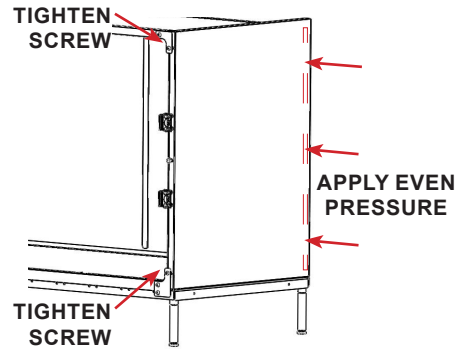

FIGURE 2.58 - End Panel Installation
**STEP 7:** Tighten the top and bottom screws along the side of the cage frame to hold the end panel against the cage frame. See FIGURE 2.58
**STEP 8:** Apply even firm pressure for 60 seconds (minimum) to the end panel to adhere the end panel to the back of the cage. See FIGURE 2.58